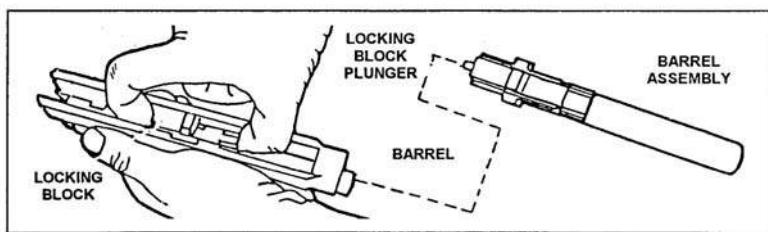

Figure 071-004-0001-3. Removal of the locking block and barrel assembly
- i. Disassemble the magazine (figure 071-004-0001-4).